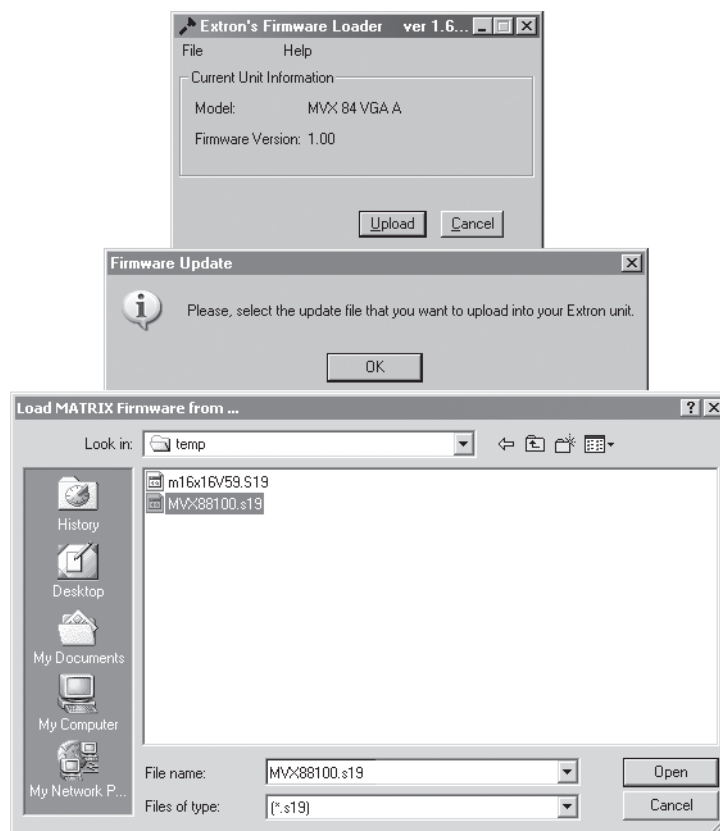

Figure 4-9 — Open window
3. Click *Tools > Update firmware*. The Extron Firmware Loader appears (figure 4-9).